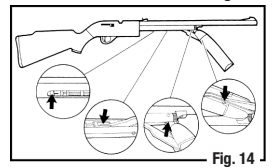

Fig. 14
- While pointing in SAFE DIRECTION, hold the gun in the position shown in Figure 14.
- Your airgun will maintain proper function longer if you oil it every 250 shots. Put one drop of Crosman 0241 Pellgunoil® (available at crosman.com) on the pump pivot pins and the pump cup in the pump mechanism. (Fig. 14) **DO NOT** use petroleum distillate based oil or solvent and **DO NOT** over-oil as this can cause damage to your gun.